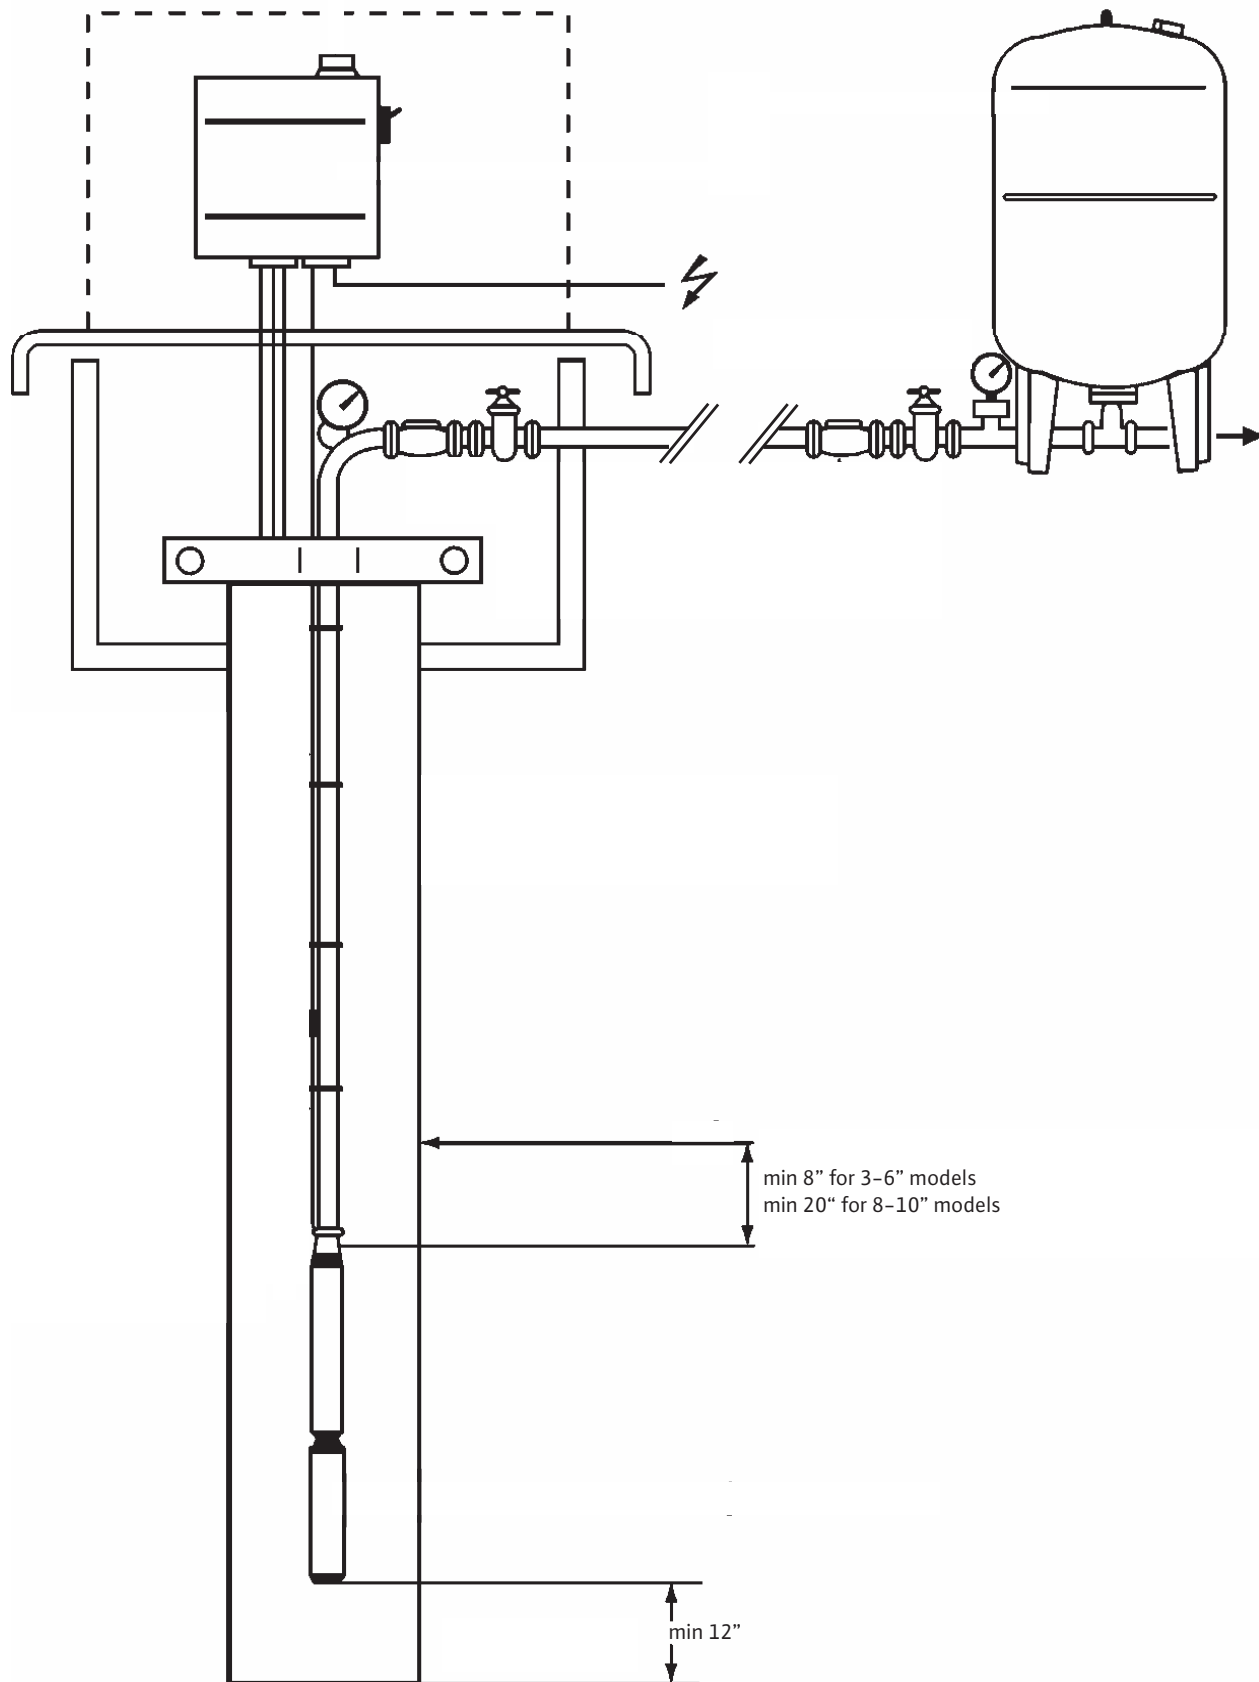

Fig. 1
- The final installation position must be guaranteed such that the pump sits at least 1 foot above the bottom of the bore-hole or well (fig. 1).
5.2 Hydraulic connections (see fig. 1)